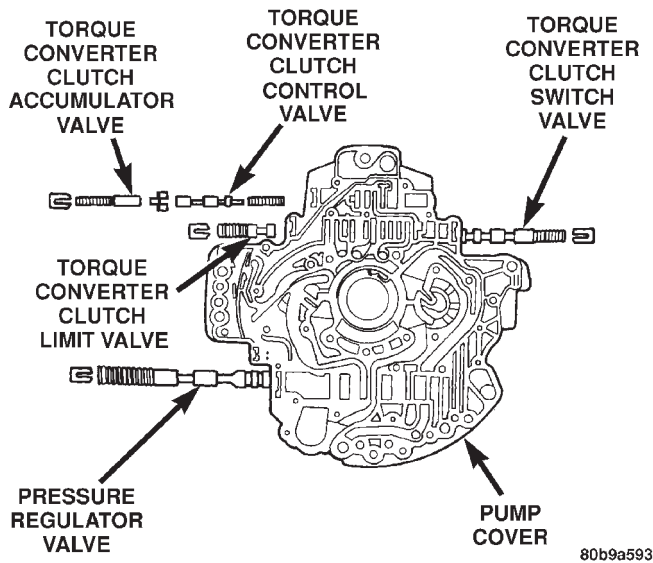

Fig. 40 Oil Pump Cover Components
(9) Remove the oil pump valve retainers and associated valve and spring one at a time (Fig. 40). Mark the combination of components as a group and tag them as to the location from which they were removed.